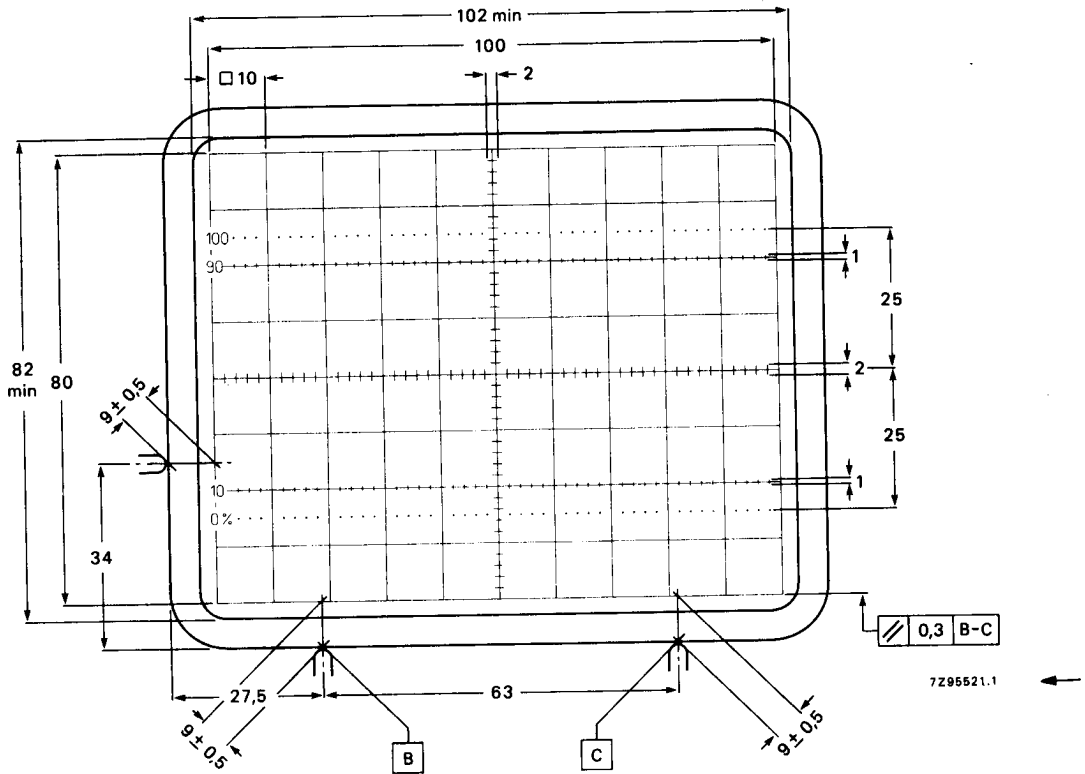

Fig. 4 Front view of tube with internal graticule, type 123.
The tube can be mounted in any position. It must not be supported by the socket and not by the base region alone. The reference points on adjoining edges of the faceplate (see Fig. 4) enable the tube to be mounted accurately in the front panel, thus providing optimum alignment of the internal graticule.
The internal graticule is aligned with the faceplate by using the faceplate reference points, see Fig. 4. See also note 1.
1. As the frit seal is visible through the faceplate, and not necessarily aligned with the internal graticule, application of an external passe-partout with open area of max. 102 mm x 82 mm is recommended. The internal graticule is aligned with the faceplate by using the faceplate reference points (see Fig. 4).